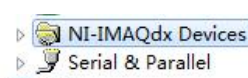
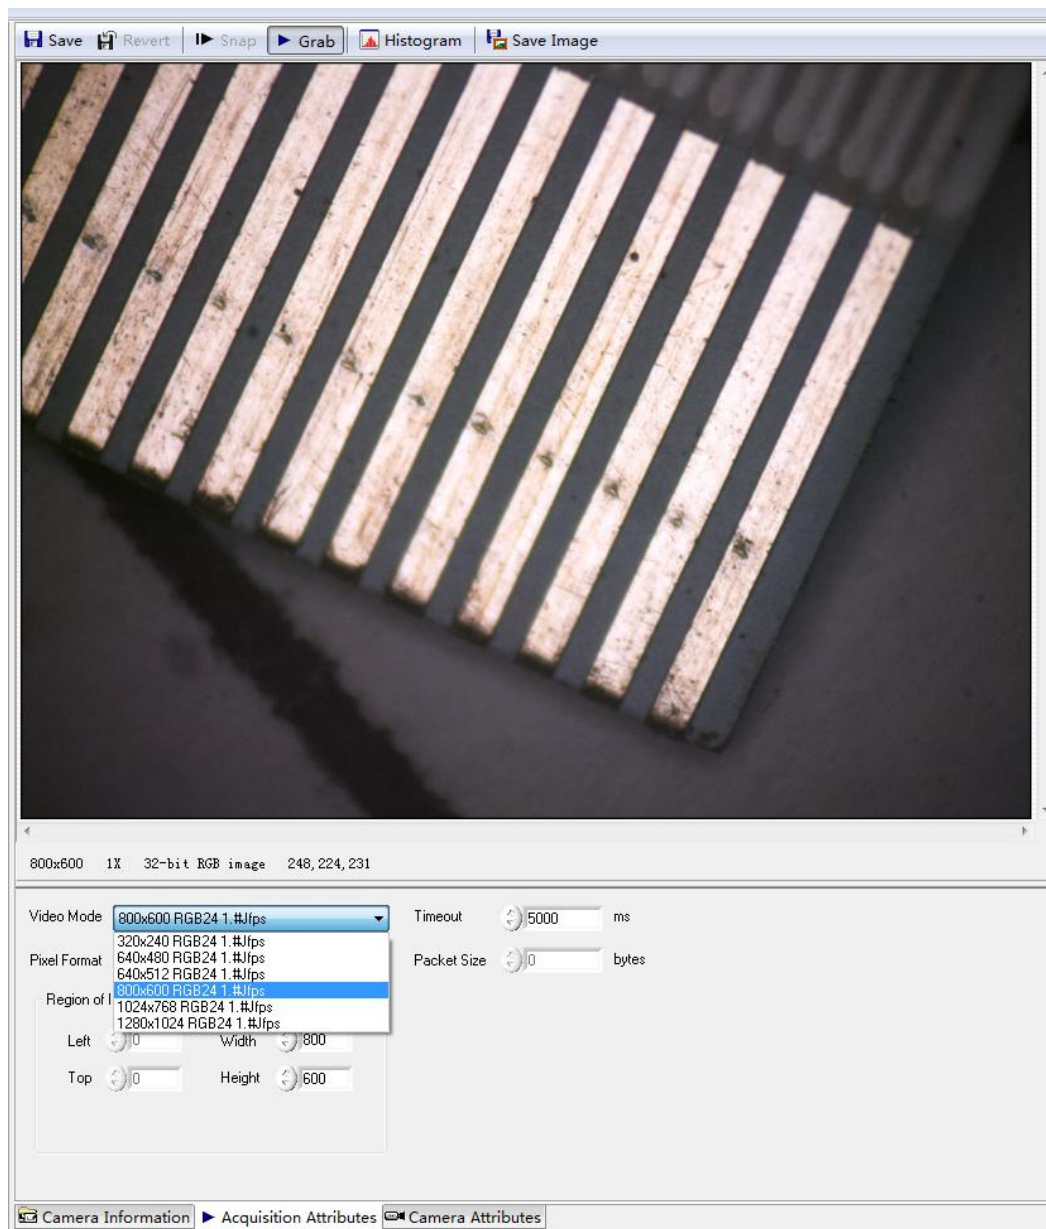

figure 1
figure 2
- 1) Connect the camera first, and then run NI MAX. You can find our camera under NI-IMAQdx Devices under "Devices and Interfaces", as shown in Figure 1. After double-clicking, you can get the camera preview screen as shown in Figure 2 (you need to click the Grab button on the second side of the figure to preview).
- 2) In Figure 2, the resolution can be switched
After clicking on the Camera Attributes tab in Figure 2, you can set other camera parameters. As shown in Figure 3. Under this interface, due to the limitation of the agreement, only some parameters of the camera are allowed to be set, and the settings of other parameters can be saved through our demo software after adjustment (the camera parameters can be saved as a file, no matter which one you use. This parameter file can be effectively loaded automatically when developed in various ways), and then opened with NI MAX, it is also effective.